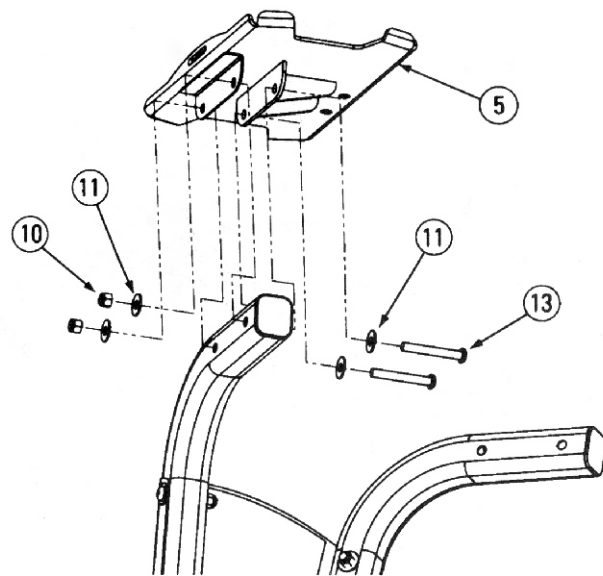

Figure 5
**5-1** Secure the Left Dumbbell Platform (#5) to left Stand Leg (#4) using the hardware shown in **Figure 5**.